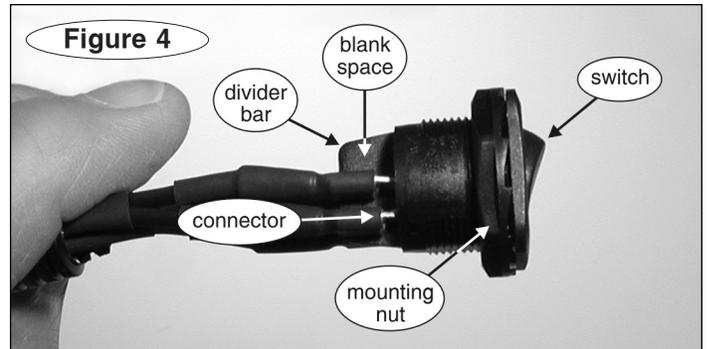

Figure 4
7. Note that the wiring at the back of the switch (Figure 4) is in two pairs, on either side of the divider bar (Figure 4).
Remove the wiring from the switch by pulling on each connector (Figure 4) until they separate from their terminals.
Remove the mounting nut (Figure 4).
8. Position the switch in the hole you drilled, with the blank space (Figure 4) at the top.
- ...the connectors (Figure 4) are properly attached to the back of the switch; and